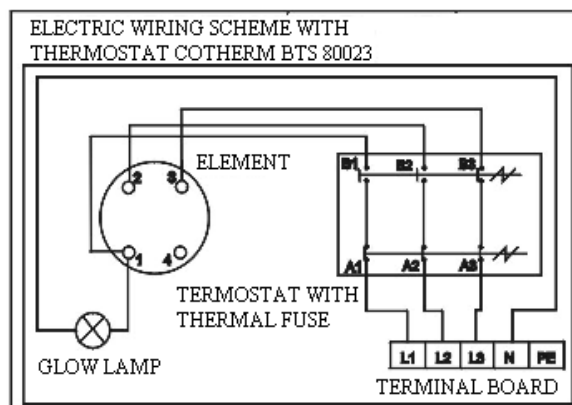

Figure 6
- The wiring diagram is attached to the heater on the side of the electric installation guard (see Fig. 6).